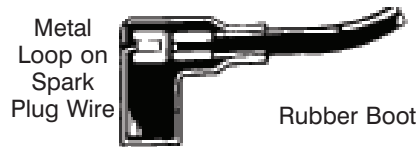

FIGURE 21
- Attach spark plug wire to spark plug. Make certain the metal loop on the end of the spark plug wire (inside the boot) is fastened securely over the metal tip on the spark plug. See Figure 21.